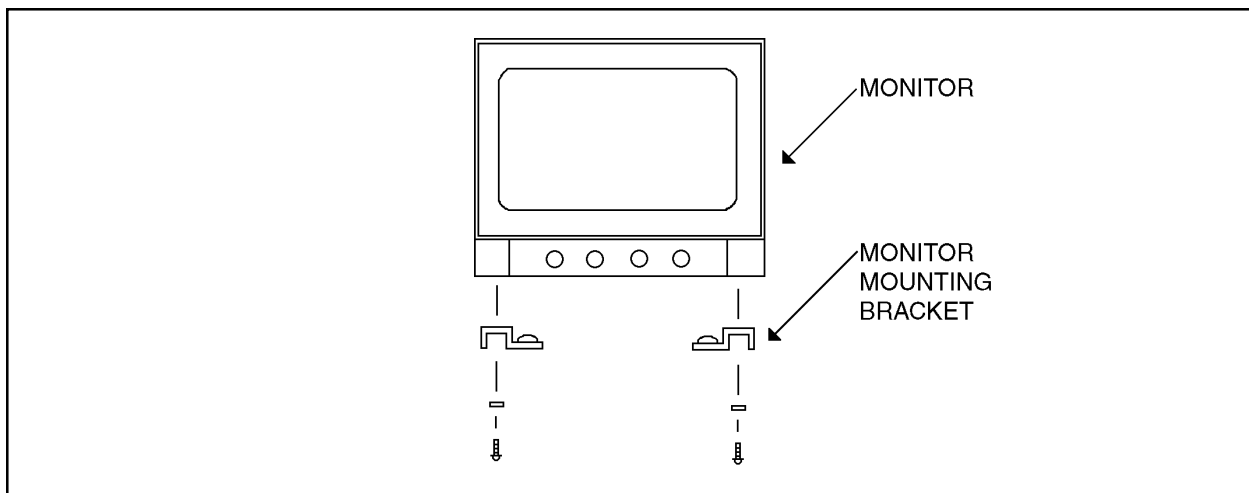

Figure 1. Monitor Assembly
3.1.1 Monitor Assembly (See Figure 1)